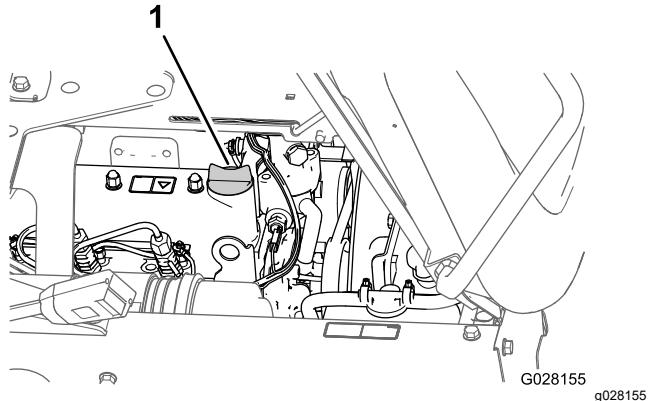

Figure 76
5. Remove the oil-filler cap from the filler neck of the valve cover of the engine and slowly pour approximately 80% of the specified amount of oil into the filler neck (Figure 76).
8. Install the oil-filler cap into the filler neck (Figure 76).